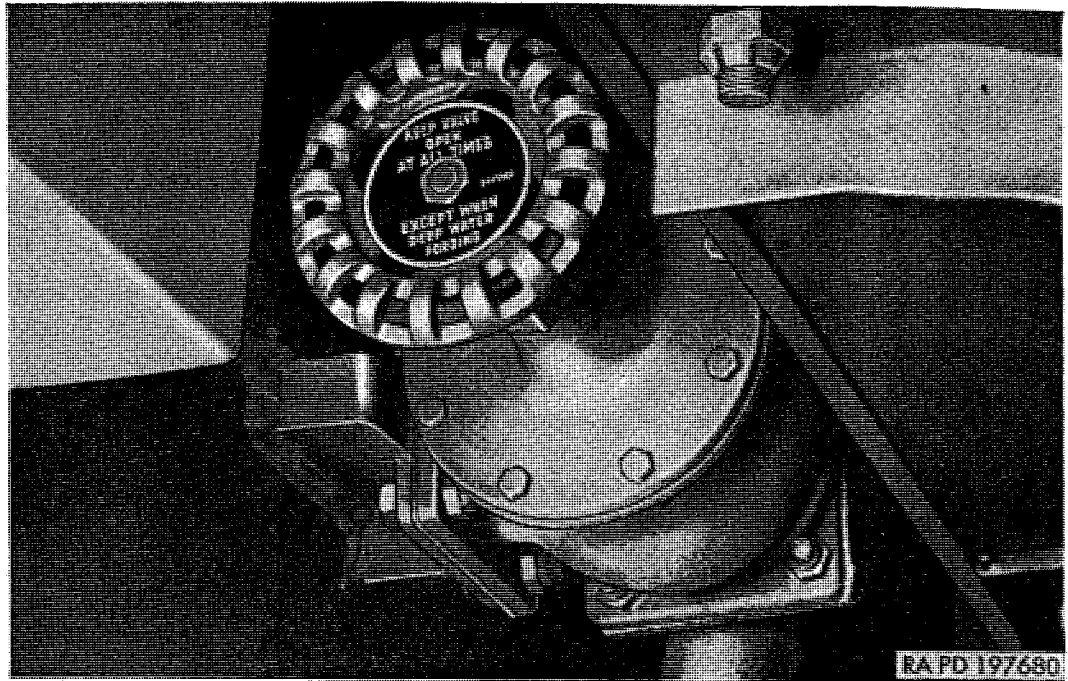

Figure 60. Heater gate valve.
- (2) *Heater gate valve* (fig. 60). The heater gate valve must remain open at all times except when fording in deep water as indicated on instruction plate attached to handwheel. Turn handwheel counterclockwise to open, and clockwise to close.
- (3) *Submersion type heaters.* Submersion-type heaters can be used in each tank compartment after large manhole cover at